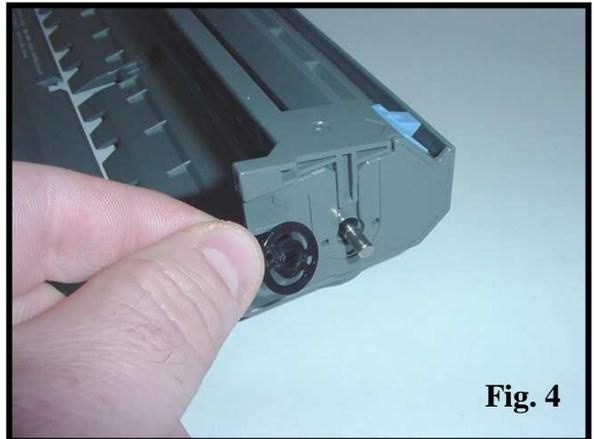

Fig. 2
2. Remove the C-ring from the drum axle (Fig. 2).